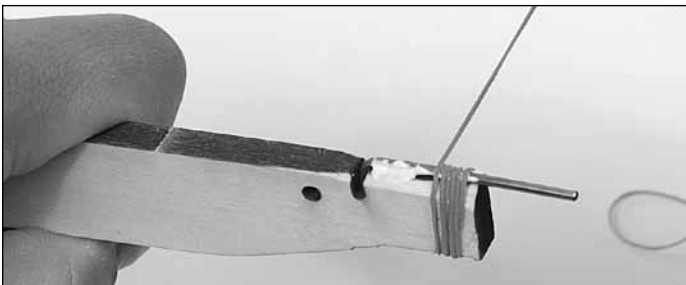

Figure 3
4. Lay the string alongside the hook with the long end hanging off the end of Part A. Start winding the string around the hook and arm, working back from the end (Figure 3). Apply glue over the string to hold it on both sides. Snip off any extra string.